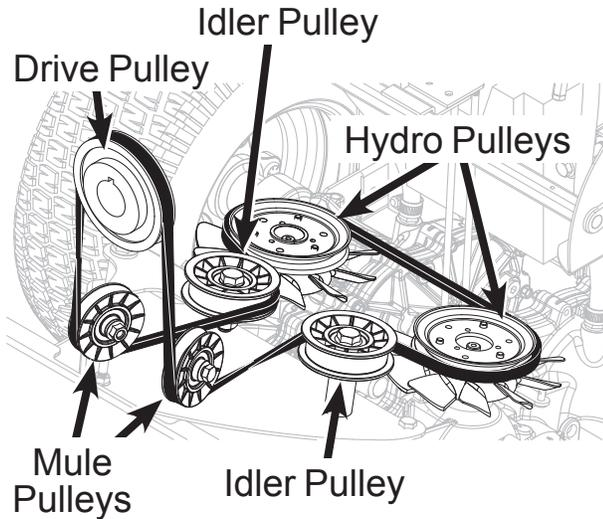

Figure 1
3. Locate the belt from the right side of the unit (Figure 1). Reach in and pull belt out. Feed belt in the back of blower housing behind impeller. Reach in the front of blower housing, grab belt, rotate impeller by hand until belt comes free from behind impeller.